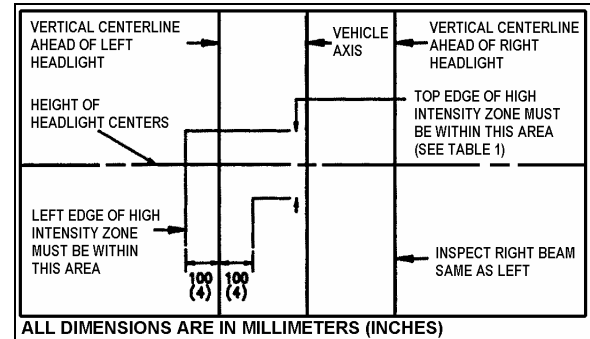

FIGURE 35: AIM INSPECTION LIMITS FOR LOWER-BEAM HEADLIGHTS 06506
7. The inspection limits in the vertical direction for low-beam headlights or the low beam of a dual-beam headlight, shall be as described in Table 1. In the horizontal direction, the left edge of the high-intensity zone shall be located from 10 cm (4 in) left to 10 cm (4 in) right of the vertical centerline of the beam. The viewing screen shall be located 7.6 m (25 ft) in front of the vehicle (Fig. 35).